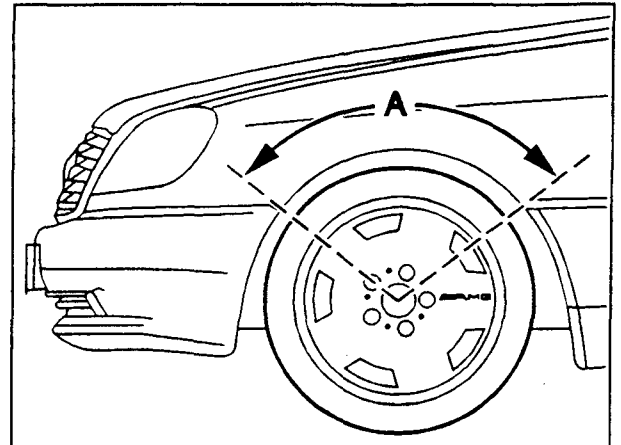

Figure 2
2. The inside edge of the front fenders must be rebent 30° over the complete wheel cutout (A, Figure 2) to accommodate the wider wheels and tires (bend lip so that rolled lip measures 9.5 mm).
5. The fender lip is reworked over the entire area (A, Figure 2) in several stages. A plastic hammer must be used to avoid damaging the paint.